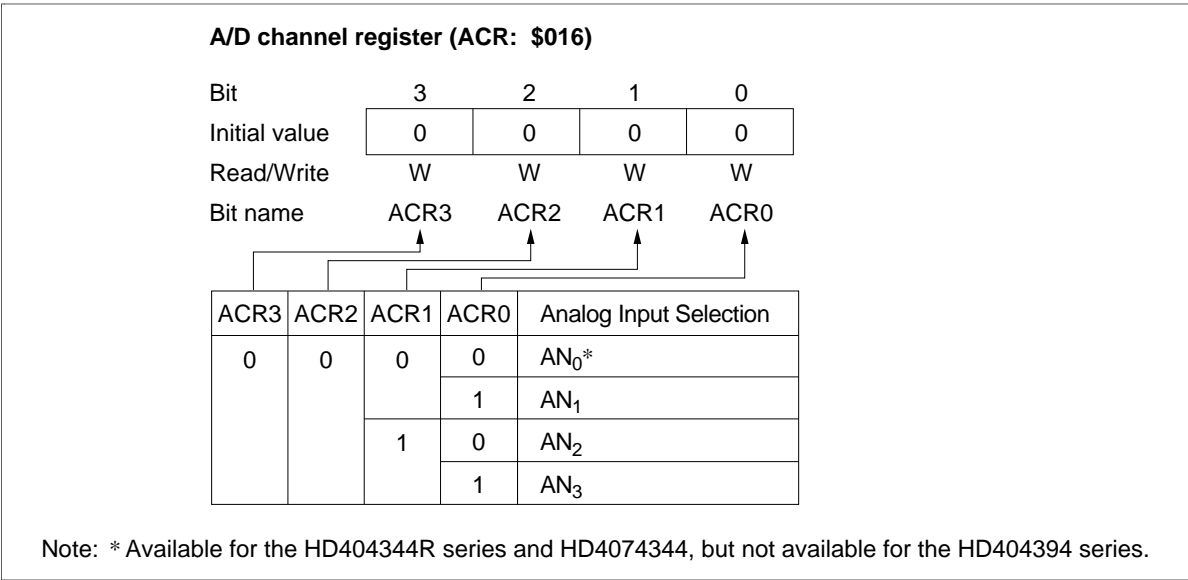

Figure 55 A/D Channel Register (ACR)
- The A/D channel register (ACR: \$016) is used to select an analog input channel (figure 55).